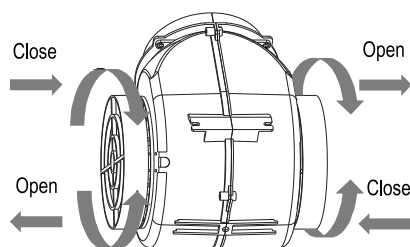

Fig.11
- Turn the carbon filters until they are locked. See Fig.11.